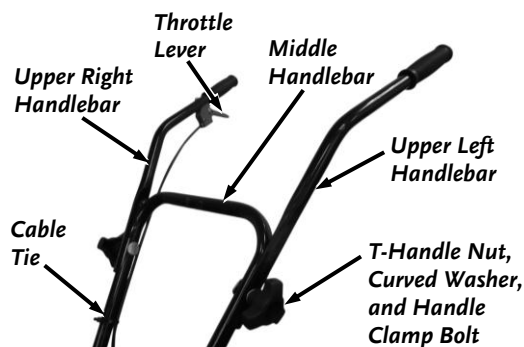

Figure 3
3. Attach the Upper Right (with Throttle Lever) and Left Handlebars to the Middle Handlebar using the remaining two T-Handle Nuts, two Handle Clamp Bolts, and two Curved Washers (**Figure 3**). DO NOT over tighten the T-Handle Nuts.